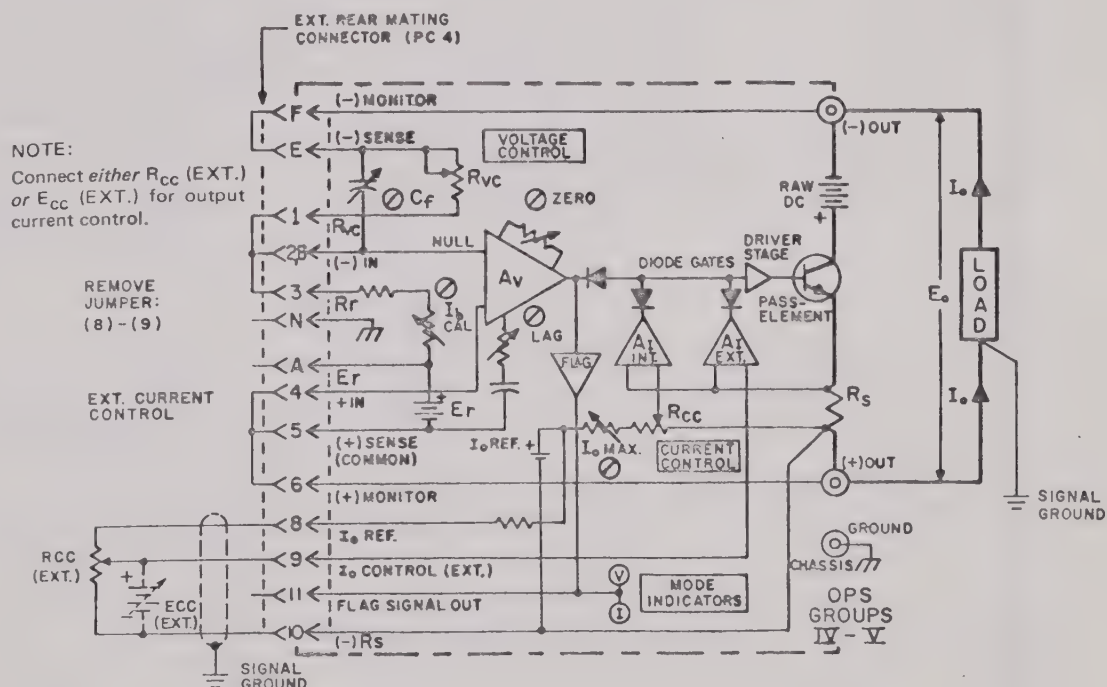

FIG. 3-14 CONNECTIONS FOR REMOTE OUTPUT CURRENT CONTROL BY POTENTIOMETER (R_{CC} EXT.), OR BY EXTERNAL CONTROL VOLTAGE (E_{CC} EXT.).
- 3-49 **OUTPUT CURRENT CONTROL BY POTENTIOMETER.** In this control mode, the front panel CURRENT control potentiometer is set to the *maximum* desired output current value (this control serves as a "back-up" current limit), and a remote potentiometer is connected to the OPS rear connector (PC-4). (Refer to FIG. 3-14. DELETE "E_{CC}" for potentiometer control.)
OUTPUT CURRENT CONTROL BY AN EXTERNAL CONTROL VOLTAGE. As indicated in FIG. 3-14 (dashed lines), the output current of the OPS can be programmed by means of an external, adjustable control voltage (E_{CC} EXT.) of 0 to 1 volt.⁽¹⁾ (Models with output current ratings *below* 5 amperes, or 0 to 0.5 volts; models with output current ratings of 5 amperes and above.) The method of applying the programming voltage can be as simple as using a potentiometer, connected across a mercury battery, or it can be a digital command with a Kepco SN Programmer as the interface.
As shown in FIG. 3-14, the *voltage* control channel of the OPS remains committed for d-c voltage output and will thus serve as a *voltage limiter*. The voltage channel may be remotely-controlled or front panel adjusted in these applications. For remote control, simultaneously with the current channel, the criteria for component selection as described previously still apply.
⁽¹⁾ Connect external potentiometer (R_{CC} in FIG. 3-14).